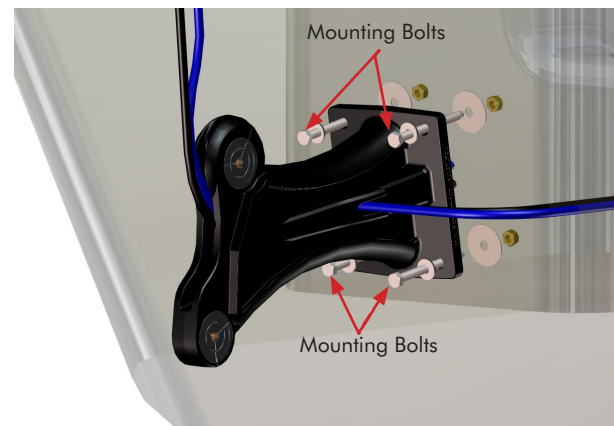

Figure 6
STEP 7 Remove the Four **Mounting Bolts** using a 9/16" Socket & Wrench **FIG 6**
STEP 1 Install the new **Stern Bracket (H)** and the **Upper & Lower U-Channels** in reverse order of removal. For transom installations, apply a small amount of Marine Grade Sealant around each Mounting Bolt Hole. **FIG 6 & 7**
STEP 2 Route the **Hydraulic Tubing** through the **Stern Bracket (H)** as shown in **FIG 6**.